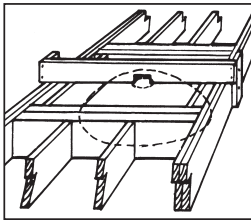
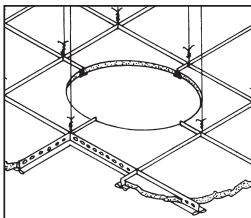

Figure 1
Figure 3
- **Frame and Wallboard Construction:** Cut wallboard and remove necessary sections of joist. Add as needed for support (*figures 1 & 2*):
(1) framing members, (2) double members on each side and perpendicular to ceiling joist, (3) over the top to hold electrical box.
- **Lay-in or Suspended Ceilings:** Cut acoustical tiles and metal framework. (*figure 3*). When in place, tiles will rest on the edge of the dome and framework.